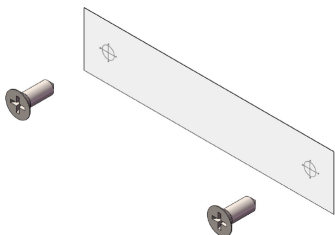

Figure 5
3) The battery CR2032 will be correctly installed in the Water Sensor (Figure5), the light flashes 2 times and then goes off, "drop, drop" two times, the corresponding digital light of the Central Controller is always on, the pairing is successful.